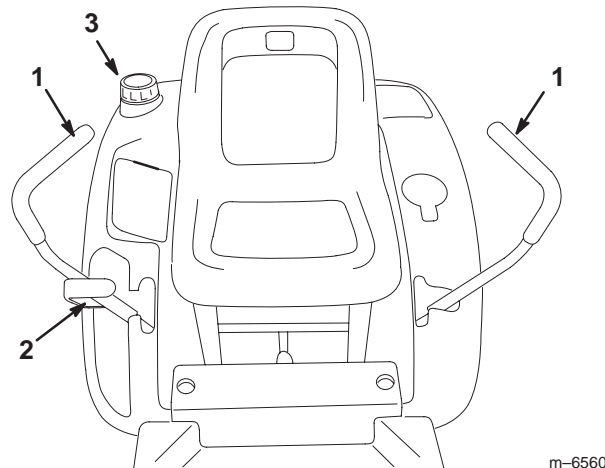

Figure 4
2. Clean around the fuel tank cap and remove the cap (Fig. 4). Add unleaded regular gasoline to the fuel tank until the level is 1/4 to 1/2 inch (6 to 13 mm) below the bottom of the filler neck. This space in the tank allows gasoline to expand. Do not fill the fuel tank completely full.
3. Install the fuel tank cap securely (Fig. 4). Wipe up any gasoline that may have spilled.